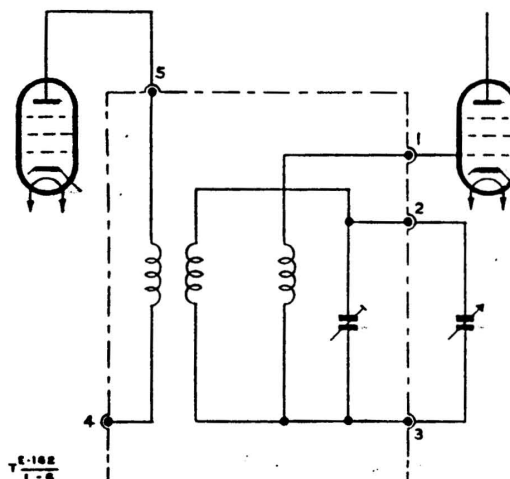

Fig 6 - Gain compensation,
19. In the 14-30Mc/s band a different arrangement has been employed. The inter-stage R.F. transformer has three windings (see Fig 6). The primary winding is closely coupled to the tuned secondary, being interwound with it and having the same number of turns. A grid winding which consists of a large number of turns of fine wire is also closely coupled to the secondary. This grid winding is resonant outside the low frequency end of the band and compensates for variations in the impedance of the tuned circuit. Gain compensation is not employed on the 50-100Mc/s band.